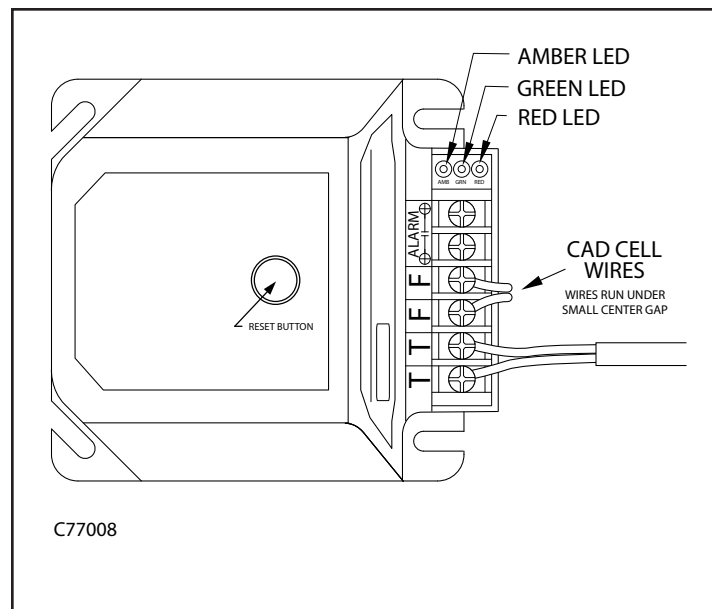

Figure 7A - Oil Primary Control
1. Refer to Figure 7A.
ATTENTION: It is very important that the "F" and "T" terminals of the Oil Primary Control are wired exactly as shown in Figure 7A. NEVER connect jumper wires to these terminals or severe damage may occur to the Oil Primary Control.